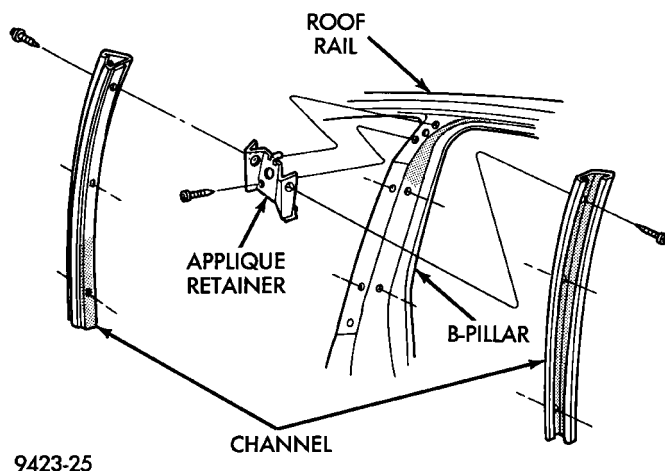

Fig. 44 B-pillar Weatherstrip Channel
- (1) Remove B-pillar applique.
- (2) Remove push-in fasteners holding weatherstrip to B-pillar.
- (3) Pull weatherstrip from B-pillar channels.
- (4) Remove screws holding channels to B-pillar (Fig. 44).
- (5) Separate channels from B-pillar.